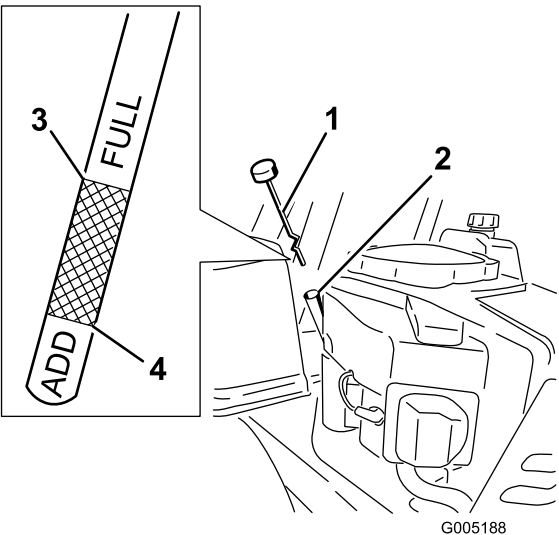

Figure 32
4. Unscrew and remove the dipstick; wipe oil off (Figure 32). Reinsert the dipstick into the tube and rest the cap on the tube. Do not screw the cap onto the tube.
5. Pull the dipstick out and check the oil level. (Figure 32).
8. Remove the oil fill cap/dipstick (Figure 32).
14. Slowly pour approximately 80% of the specified oil into the filler tube (Figure 32).
15. Install the oil fill cap/dipstick (Figure 32).
16. Check the oil level (Figure 32); refer to Checking the Oil Level.
18. Install the oil fill cap/dipstick and screw tight (Figure 32).